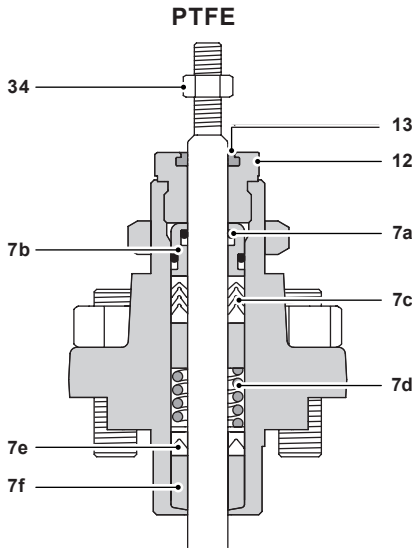

Fig. 19
5.4 Replacement of graphite gland packing (reference Figure 19)
- Remove the lock-nut (34), gland nut (12) from the gland nut, ensuring that the groove is clean and undamaged, replace with new item.
- Clean the gland cavity and reassemble the gland components in the order shown in Figure 19.